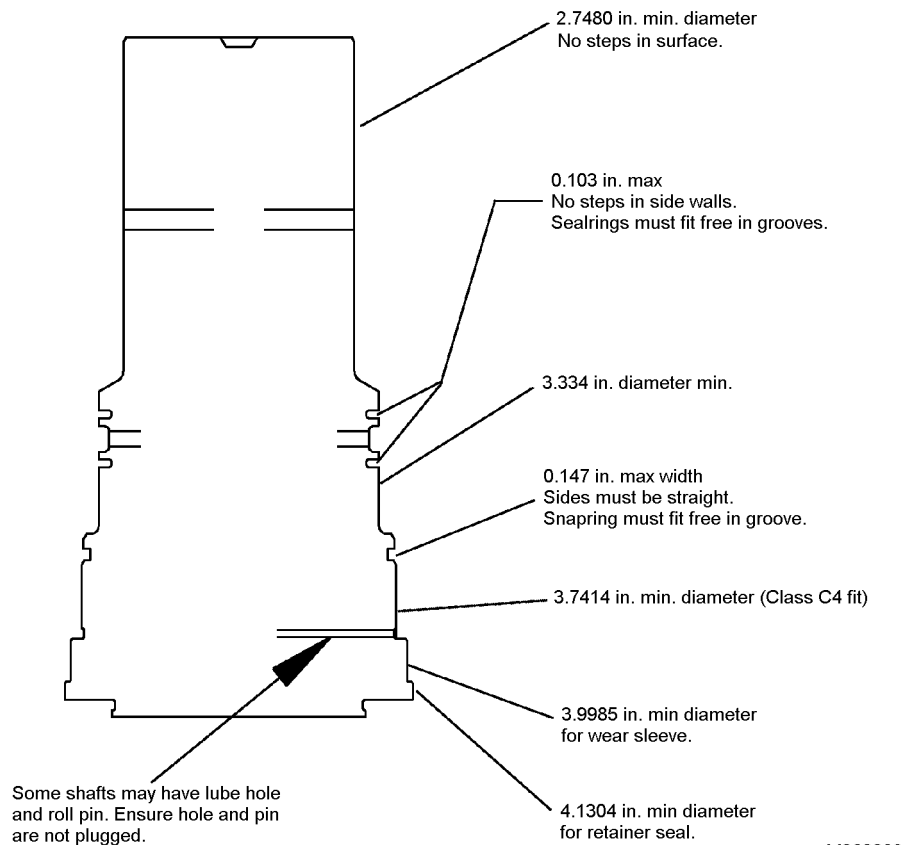

FIGURE 7-31. SHAFT ASSEMBLY WEAR DIMENSIONS
1. Check the shaft assembly for wear or damage. Refer to Figure 7-31 for dimensions.